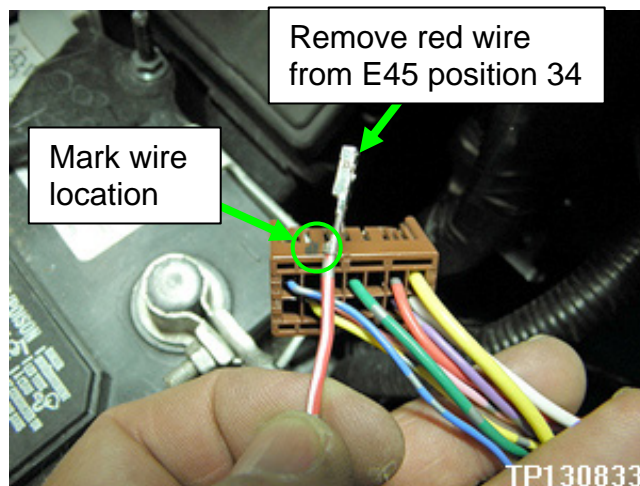

Figure 4
7. Mark connector E45 (Figure 4) with a felt marker next to position 34, on the “harness side”.